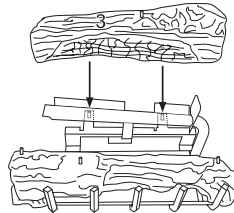

**Figure 23 - Installing Log #1, Model CD42M-A**
1. Place log #1 (small base log) onto pin on left side of grate extension (see Figure 23).